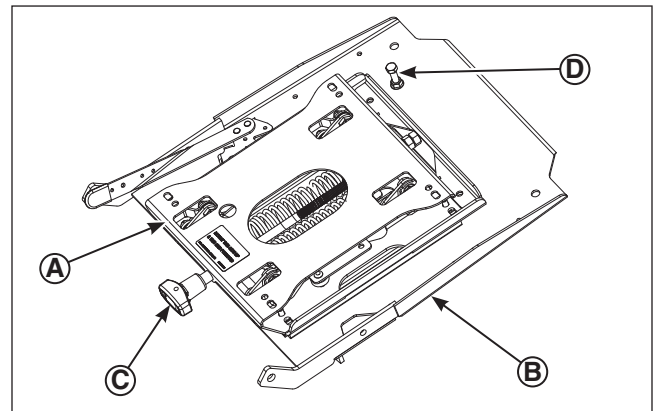

Figure 1. Inspection Procedure
- Seat Suspension Module:** Visually inspect the seat suspension module (**A**, **Figure 1**) on the seat plate (**B**) of the unit. If the seat adjustment knob (**C**) is on the bottom side closest to the seat plate, the orientation of the seat suspension module will need to be changed.